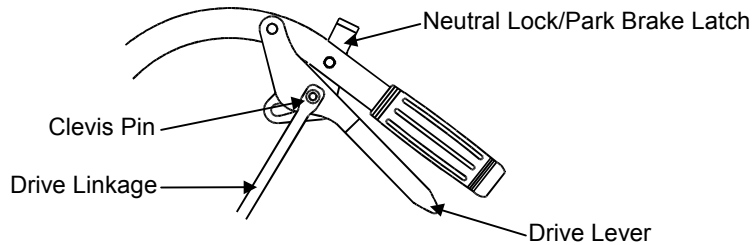

FIG. 9
- b) Insert clevis pin from bolt bag through drive linkage, lever and slot in the neutral lock/park brake latches (See Figure 9). Make proper adjustments before adding hairpins.